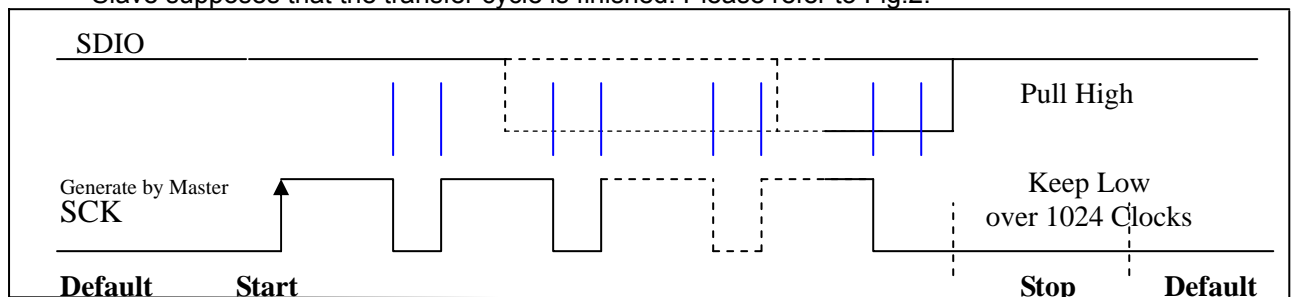

Fig.2 Conditions of 2-Wire Interface
- ◆ End : If Master keeps low on SCK over $64\mu\text{s}+20\%$ ($\sim 1024 \times 1.2$ Clocks @ 16MHz), Slave supposes that the transfer cycle is finished. Please refer to Fig.2.